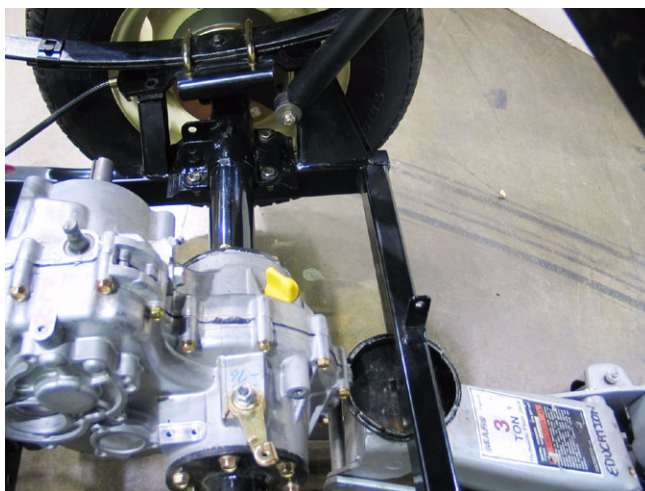

Figure 6.18
- 6.18. Lift and safely support the rear of the vehicle. See Figure 6.18.